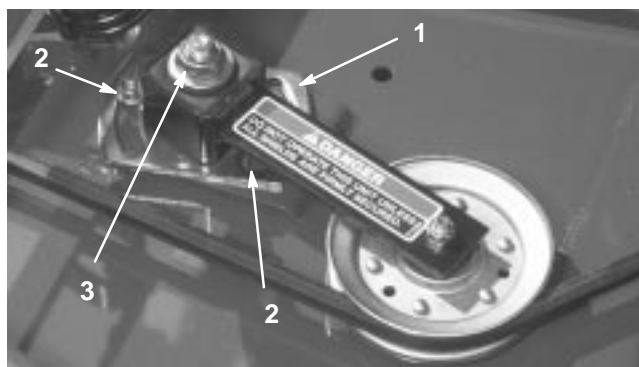

Figure 35
3. Loosen the 2 nuts securing the idler plate in place. Using a socket and torque wrench, tighten the idler adjusting nut to 35–40 ft.-lb. (47 to 54 N·m) (Fig. 35).